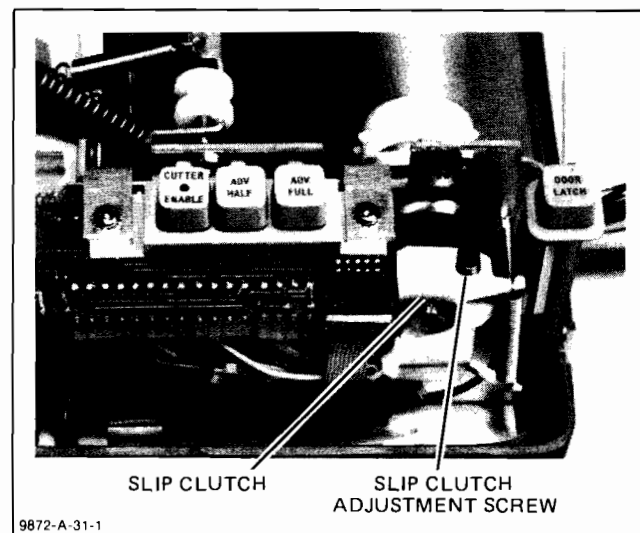

Figure A3-8. Slip Clutch Adjustment
- a. Set the plotter LINE switch to the OFF (O) position.
- e. If adjustment is necessary, turn the clutch adjustment screw clockwise to tighten or counterclockwise to increase slippage. See Figure A3-8.